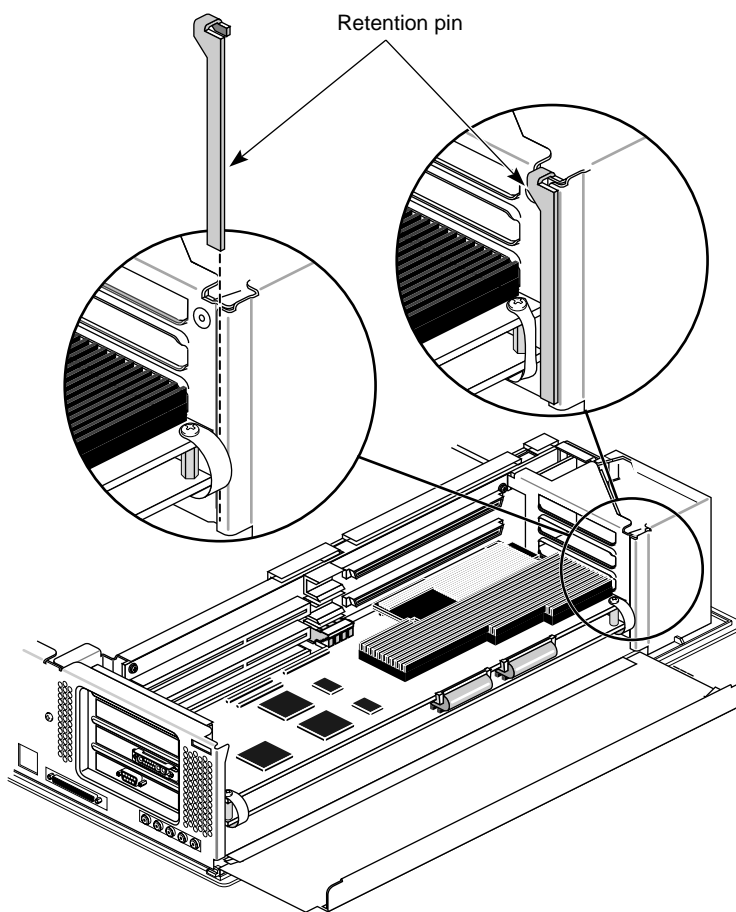

Figure 4-23 Replacing the Retention Pin
11. Hang the retention pin so that it sits in front of the board set. The retention pin prevents the board set from moving away from the connectors. See Figure 4-23.